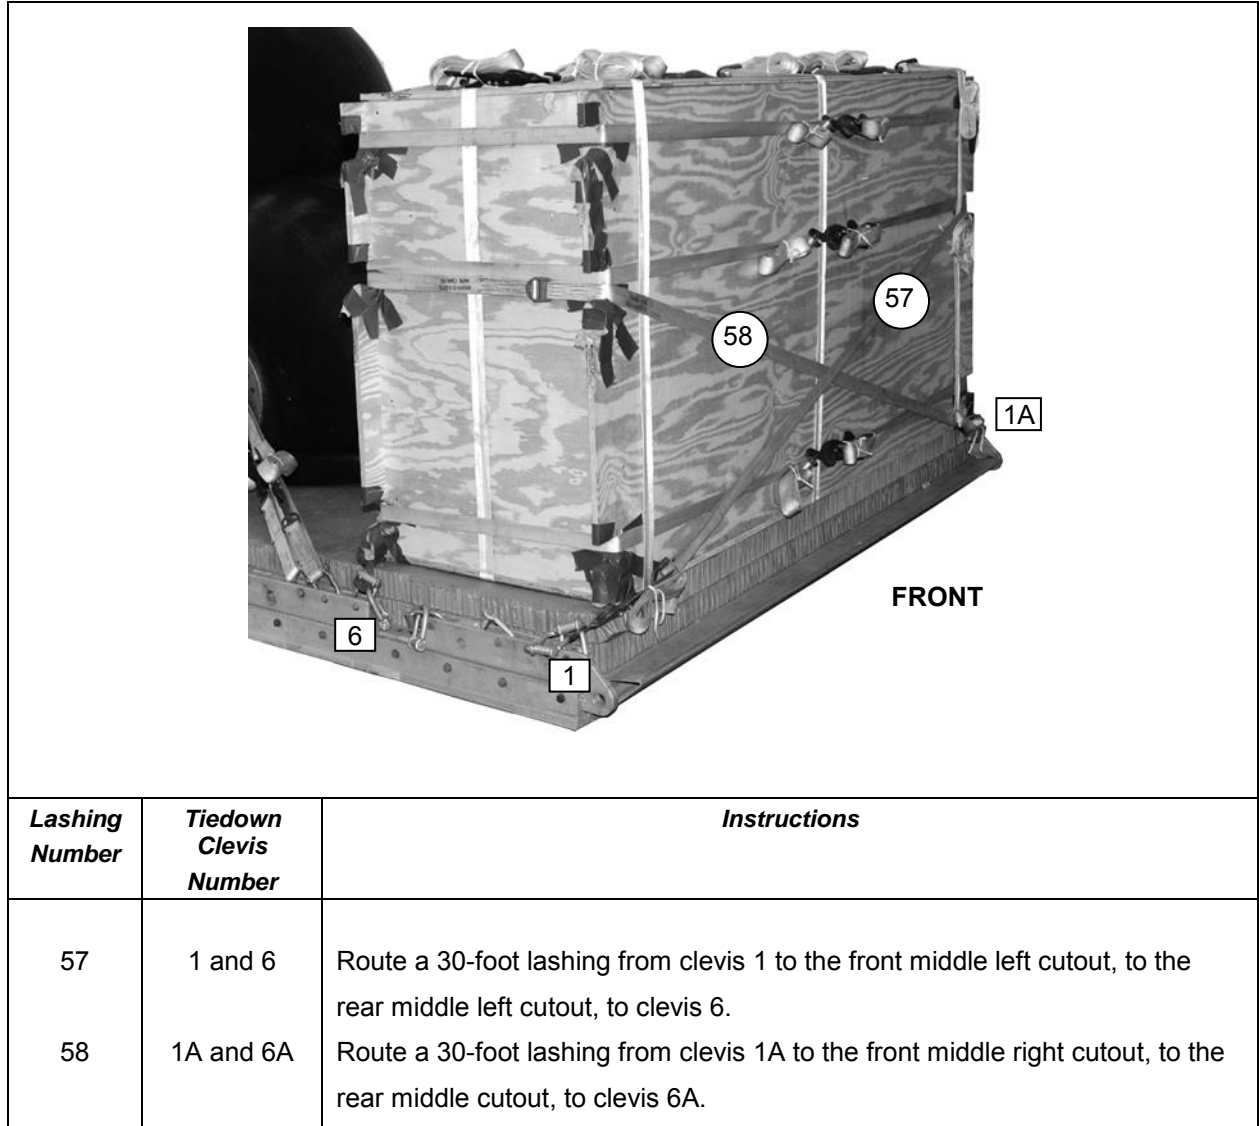

Figure 23-23. Lashings 57 and 58 Installed
23-10. Lash the equipment boxes as shown in Figures 23-23 through 23-28.
- Lash the front equipment box to the platform as shown in Figures 23-23 through 23-25.